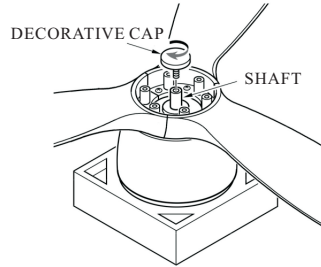

FIG.2
2. Screw on the decorative cap. (See Fig.2)
## 2. INSTALLING THE RECEIVER (FIG.2)